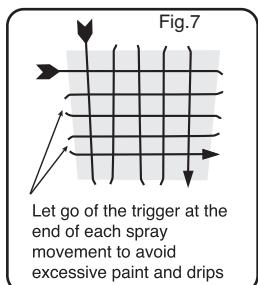

Fig.7
3. If spraying small areas or objects keep the Fluid Adjusting Screw (12) setting low as this will avoid excessive use of paints and will minimise overspray.
4. When spraying large areas or objects, it is best to use a 'criss-cross' pattern, either from left to right then up or down or vice-versa. This will ensure maximum coverage (Fig. 7).